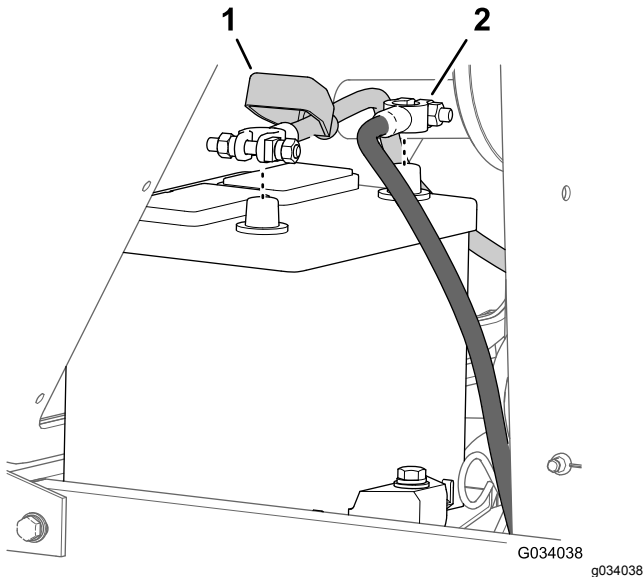

Figure 51
2. Disconnect the negative (-) cable from the battery post (Figure 51).
3. Slide the insulator cover away from the battery-cable clamp (Figure 51).
4. Disconnect the positive (+) cable from the battery post (Figure 51).
7. Connect the cables, positive (+) cable to the positive battery post (Figure 51).
8. Connect the negative (-) cable to the negative battery post (Figure 51).